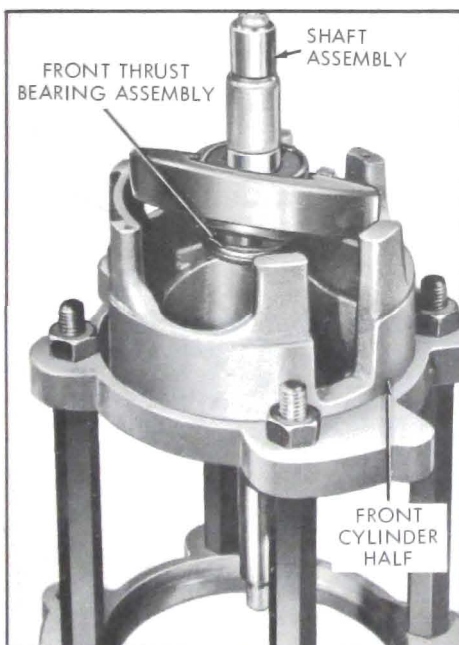

Figure 11-73—Shaft and Bearing Assembly in Front Cylinder Half
3. Place FRONT half of cylinder on J-9397 fixture. Insert threaded end of shaft (with front thrust bearing assembly) through front cylinder half and allow thrust race assembly to rest on hub of cylinder. See Figure 11-73.